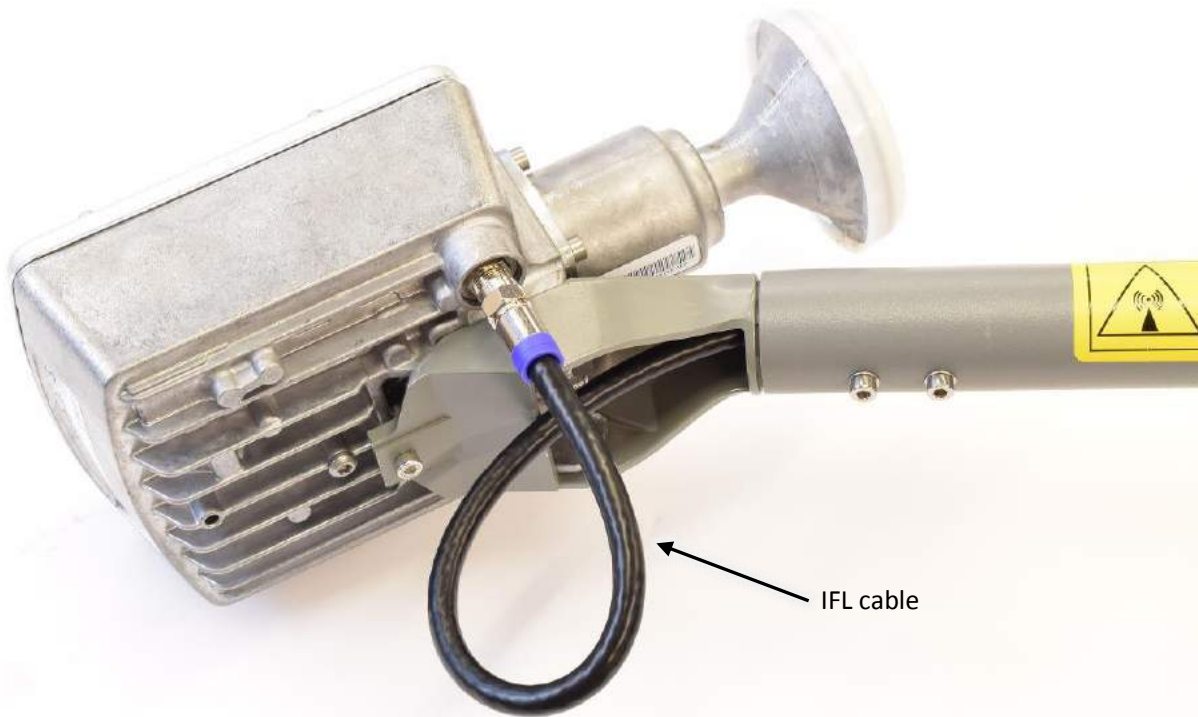

Figure 24: Hughes-approved IFL cable connector
3. Connect the IFL cable to the connector on the radio, as shown in Figure 24.